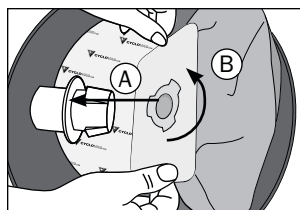

figure 20
4. Ensure adequate sealing by inserting bag as far as retention ring (**figure20 - A**).
Rotate bag 20° (**figure 20 - B**) to ensure tabs on bag adaptor are no longer aligned with the slots in the bag collar.